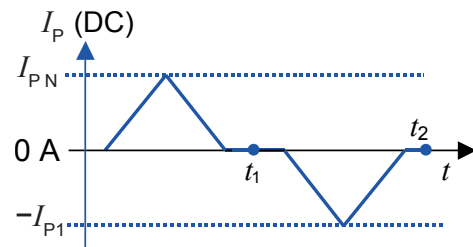

Figure 26: Current cycle used to measure magnetic and electrical offset (transducer supplied)
- or in a known magnetization state, like in the current cycle shown in figure 26.
Using the current cycle shown in figure 26, the electrical offset is: